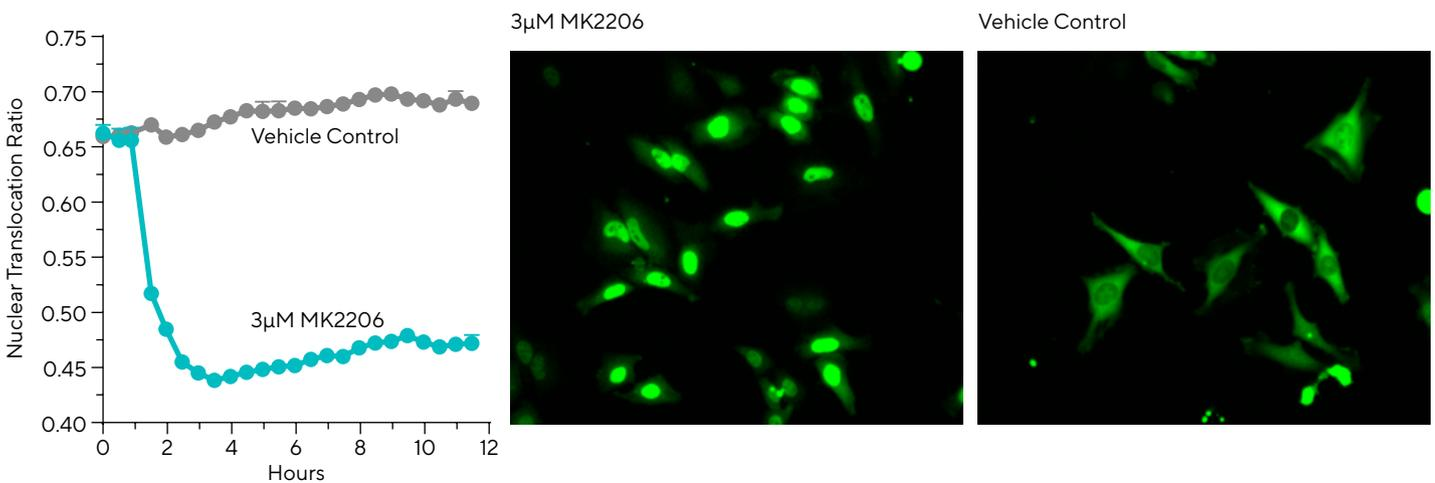
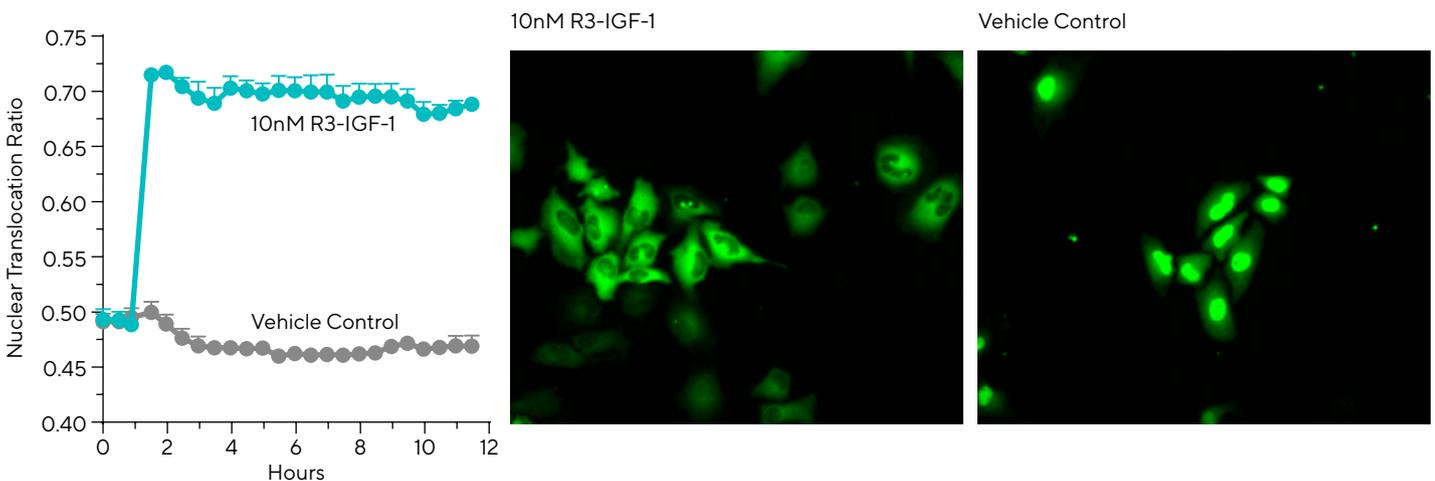

Figure 2
Figure 3
4. When Akt activity is inhibited, the green fluorescent sensor moves from the cytoplasm to the nucleus, which causes a corresponding decrease in the NTR (Figure 2). When activation of Akt occurs, the green fluorescent sensor moves from the nucleus to the cytoplasm, which causes a corresponding increase in the NTR (Figure 3). NOTE: Quantification of the Incucyte® Kinase Akt requires accurate segmentation of the cytoplasm and nucleus. Significant changes in the morphology of the cells can have an impact on the Nuclear Translocation Ratio metric. If compound treatments cause the cells to round up and begin to die, this will cause an artificial decrease of the NTR that may not be caused by inhibition of Akt. We recommend using the Red Object Count to identify compound concentrations that impact cell proliferation. Changes in morphology can then be confirmed by inspection of the images. Scans that contain cells with an altered morphology should be excluded from the analysis.